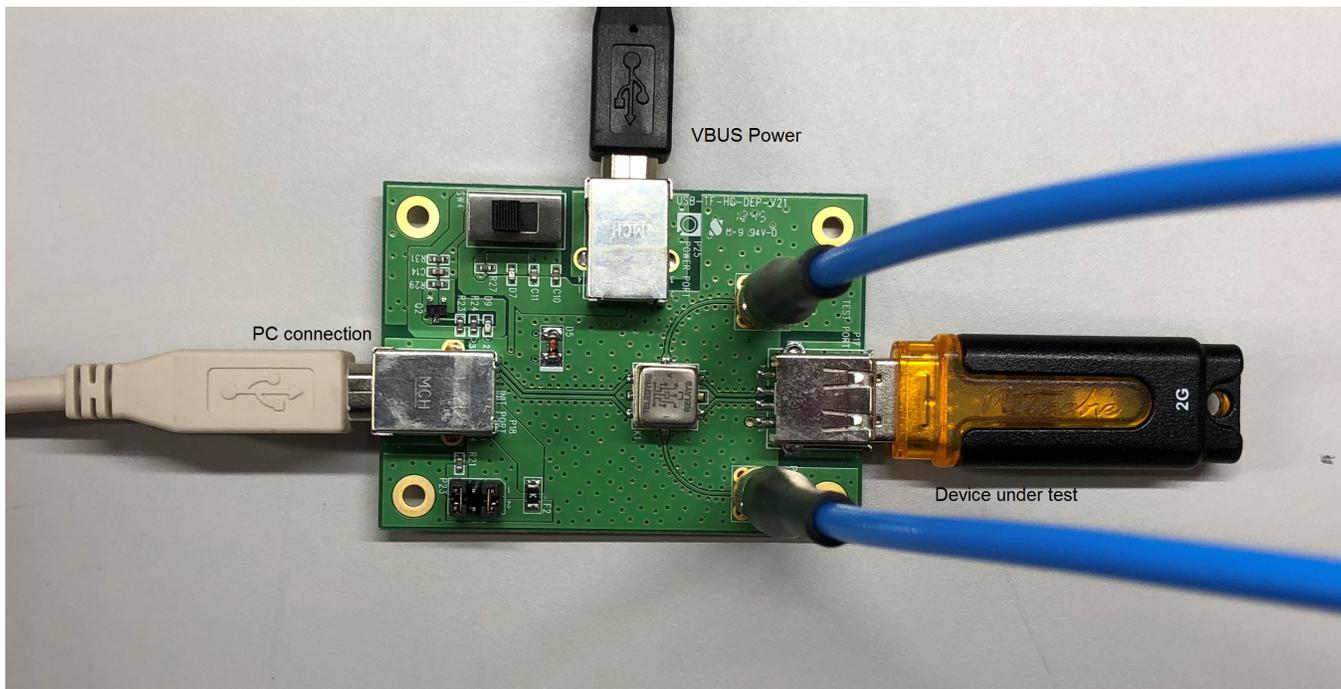

Figure 6. USB 2.0 High Speed Test Upstream Signal Quality Testing
1. Use the USB-IF (Or Scope Vendor's) USB 2.0 Device High-Speed Test Fixture (See Figure 6). Connect the USB Test Fixture to the USB device to be tested.